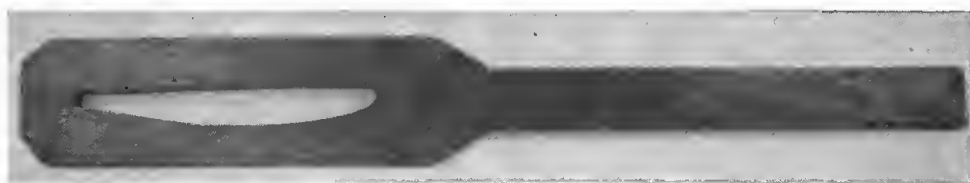

Figure 41. Propeller-blade beam.
c. PROPELLER-BLADE BEAM. This tool is usually made of wood. It is shaped like a paddle. There is a hole cut in the wide part to fit over the propeller blade. By slipping blade beams over two of the propeller blades and pulling on the end of the handle, the blade angle of the propeller is changed. It is usually used when the propeller is mounted on an airplane. (See fig. 41.)